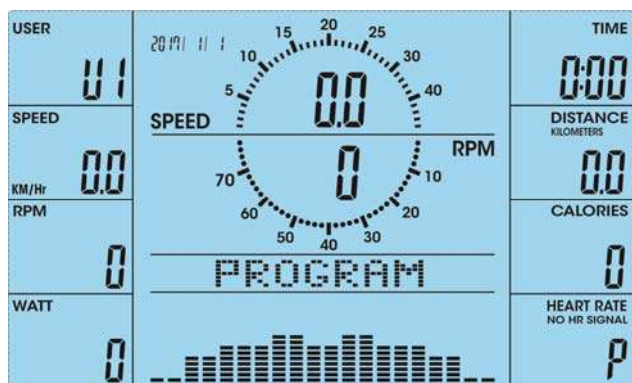
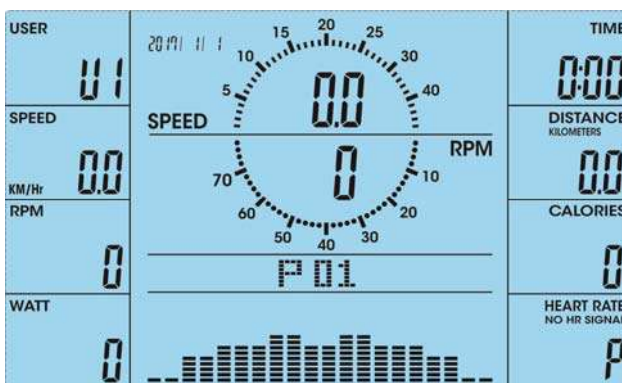

FIGURE 18
FIGURE 19
1. After enter PROGRAM mode (FIGURE 18), user can press UP or DOWN to select program profile from P1 to P12 (FIGURE 19~30), then press ENTER to confirm.